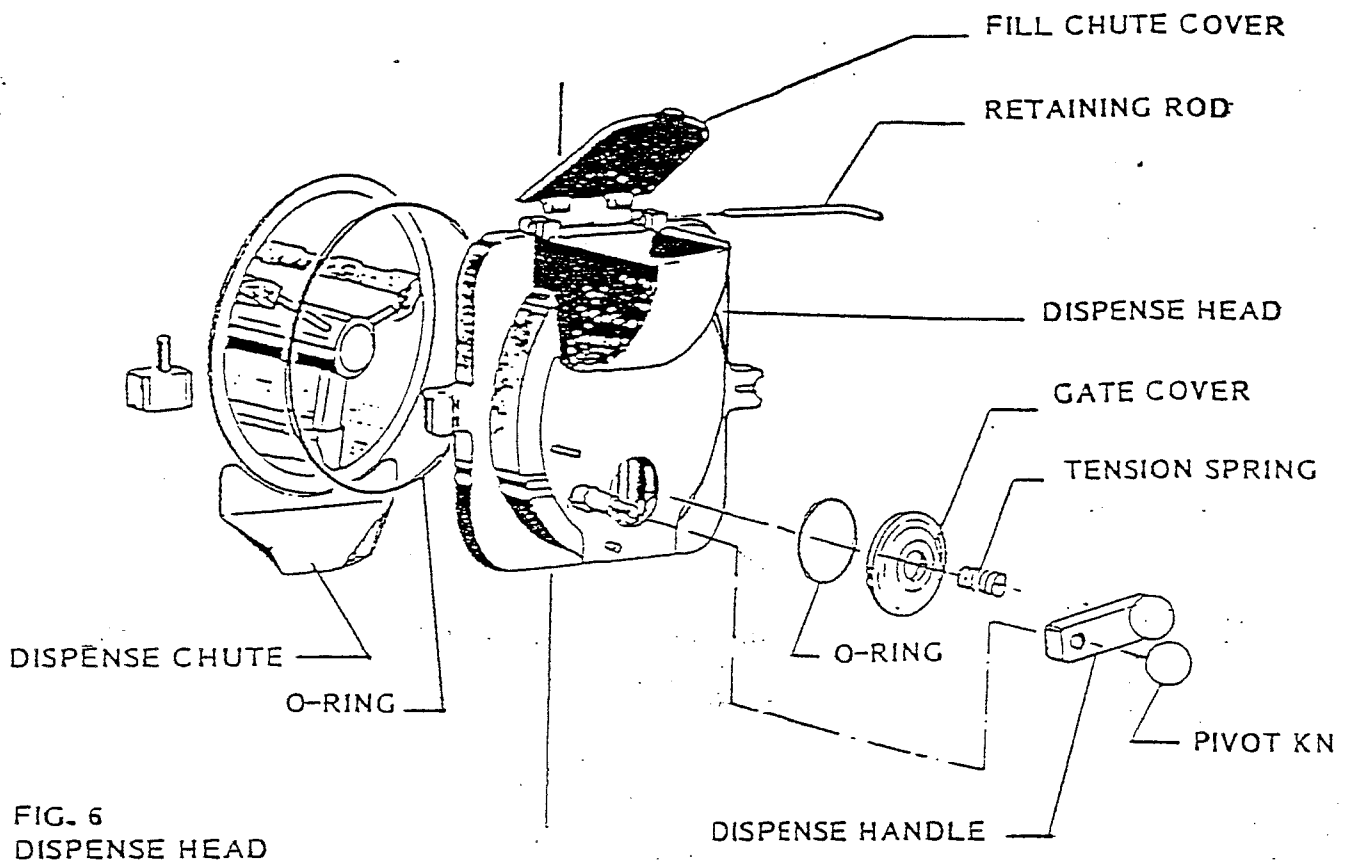

FIG. 6
- 2: Proceed with the disassembly by removing the dispense head (Ref. Fig. 6).
#### B) ASSEMBLING THE DISPENSE HEAD (Ref. Fig. 6).